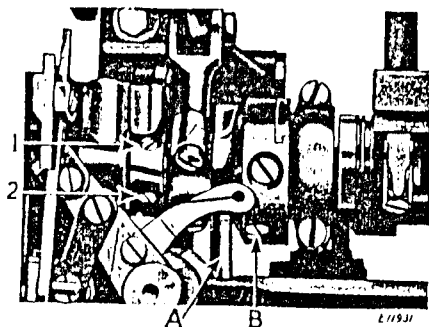

Fig. 39
Turn the machine pulley over from you as in regular operation and remove the first screw (1, Fig. 39) in the feed lifting eccentric. Turn the shaft until the flat on the shaft can be seen through the set screw hole, replace and firmly tighten the set screw on the flat. Then firmly tighten the other set screw (2).
Having the two set screws (one of which is designated by B, Fig. 39) loose in the feed eccentric, push the feed eccentric lubricator (A) and feed eccentric snugly up against the feed lifting eccentric, making sure that the tube of the feed eccentric lubricator is exactly upright.
Remove the first screw (B, Fig. 39) in the feed eccentric and after locating its flat on the shaft, replace this set screw and firmly tighten it. Then tighten the second set screw.